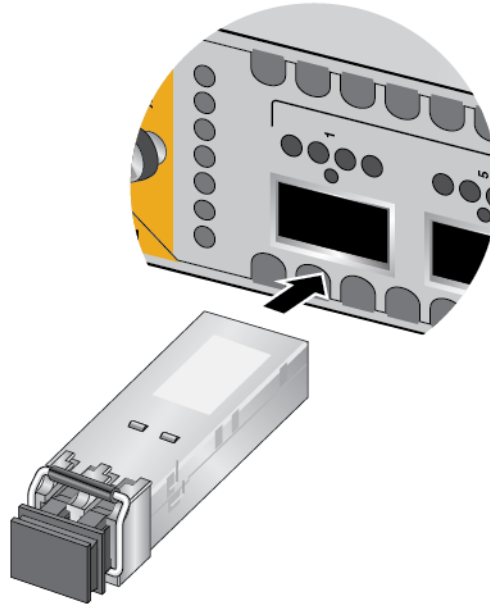

Figure 118. Installing 40Gbps Fiber Optic Transceivers in XEM2-4QS Line Cards
- ❑ 40Gbps transceivers in XEM2-4QS Line Cards - refer to Figure 118.